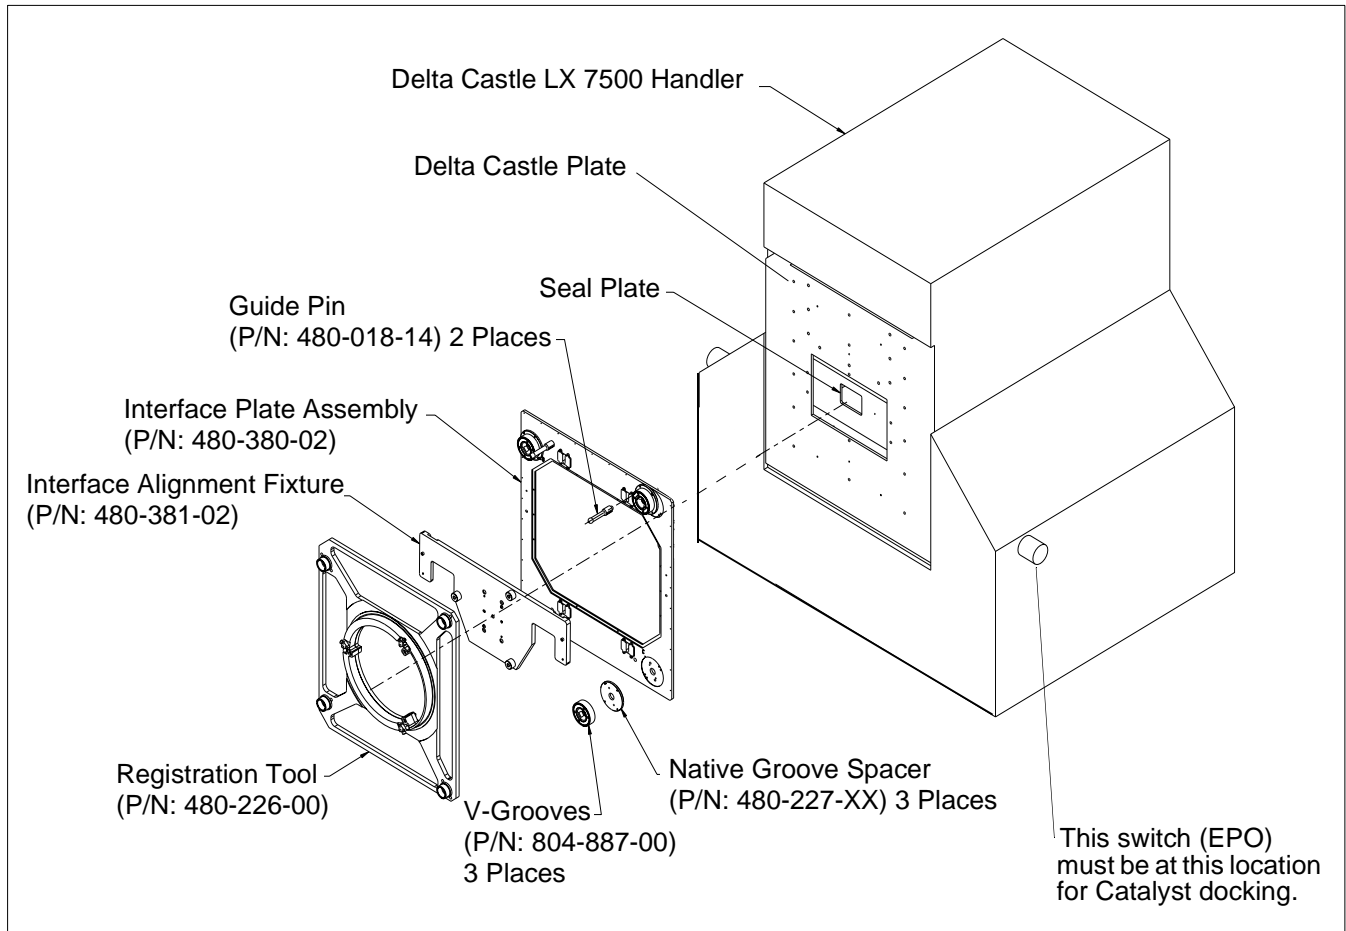

Figure 4 Interface Assembly
An exploded view of the interface assembly is shown in Figure 4.
- 2) Fasten the two guide pins (480-018-14) to the interface plate assembly. See Figure 4.
- 17) Make sure that the Emergency Power Off (EPO) switch is on the side of the handler for Catalyst docking. See Figure 4.